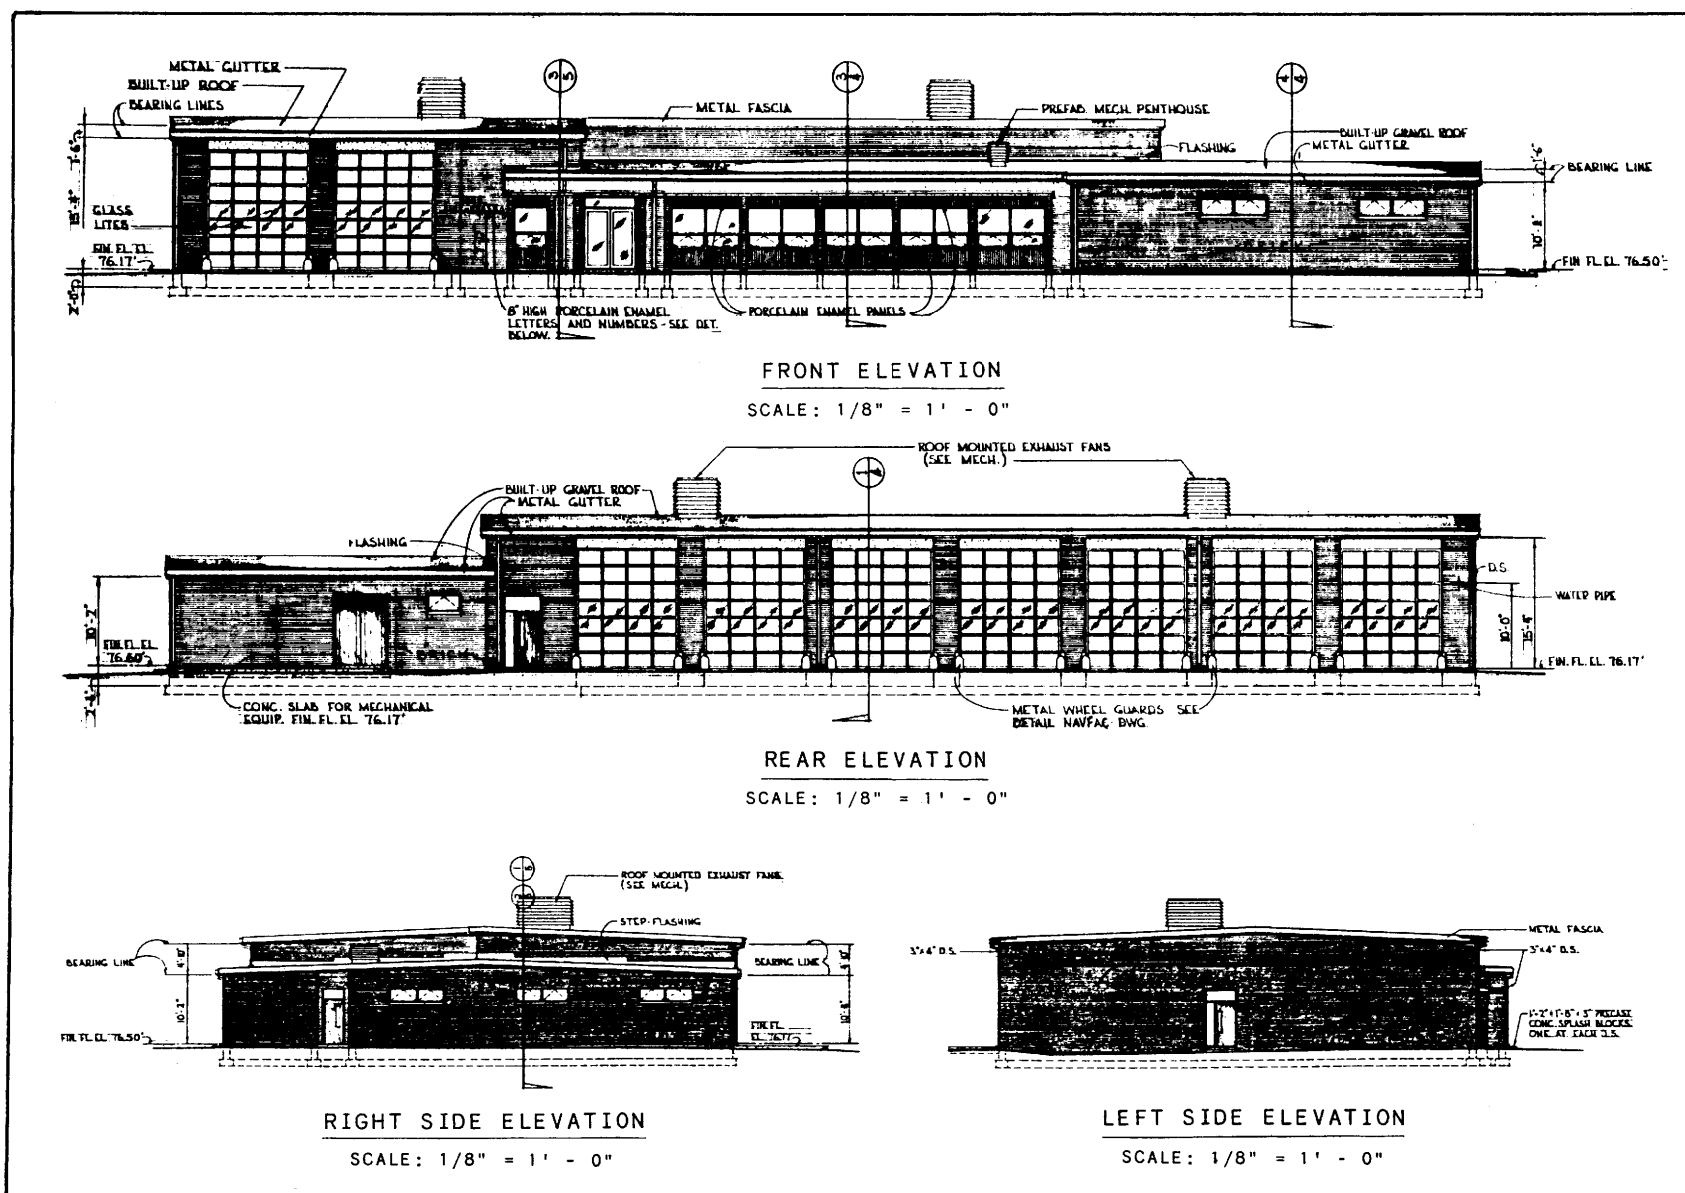

Figure 10-16.—Labeling elevations for the plan shown in figure 10-14.
There are several methods used to identify each elevation as it relates to the floor plan. The method most commonly used by SEABEES is to label the elevations with the same terminology used in multi-view and orthographic projection; that is, FRONT, REAR, RIGHT-SIDE, and LEFT-SIDE ELEVATIONS (fig. 10-16). On
5. Add all notes and pertinent information on exterior materials and finishes, title, scale, window identification marks, and roof pitch. Section symbols (fig. 10-6) may be shown on the elevation to indicate where the sections have been taken (fig. 10-16).